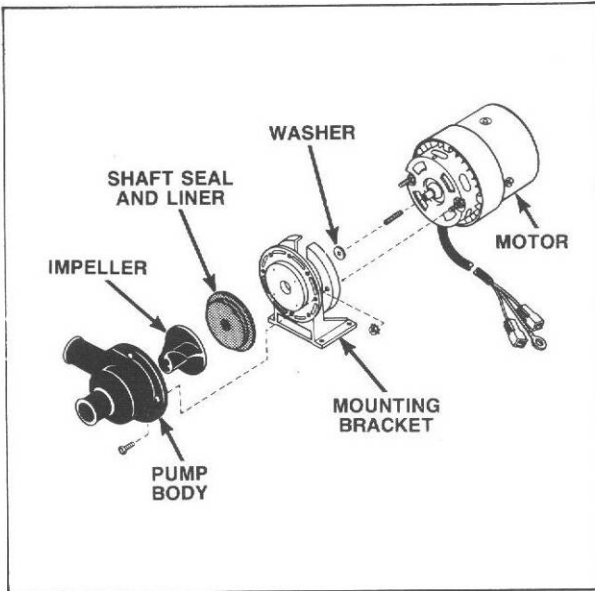

Figure 31
**NOTE:** See *Figure 31* for pump assembly sequence.